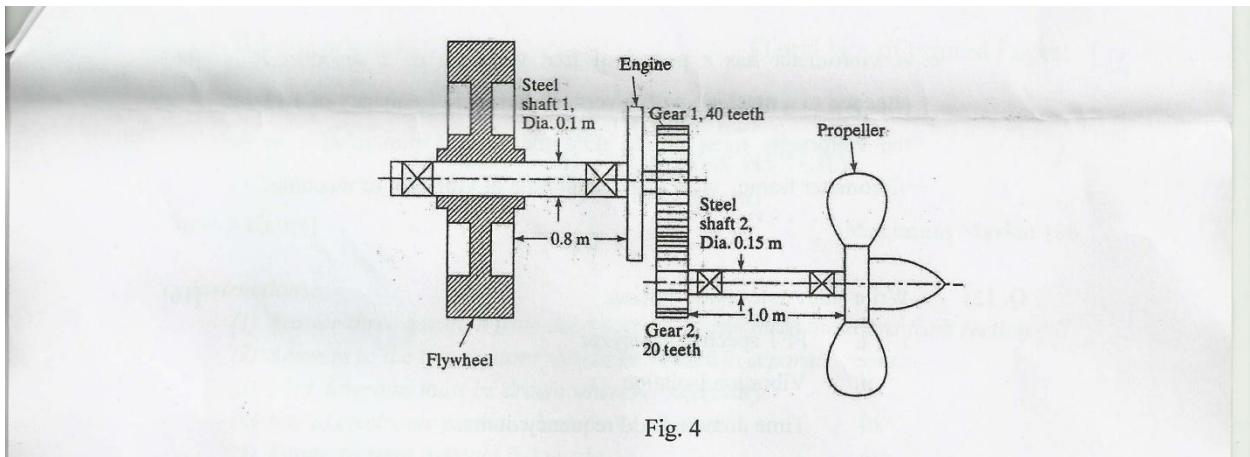

Fig. 4
b) Marine engine is connected to a propeller through gears as shown in [12] Fig. 4. The mass moment of inertia of flywheel, engine, gear 1, gear 2 and propeller are 9000, 500, 250, 150 and 2000 kg-m^2 respectively. Find the natural frequencies and mode shapes of the system in torsional vibration. Neglect mass moment of inertia of engine, gear 1 and gear 2.